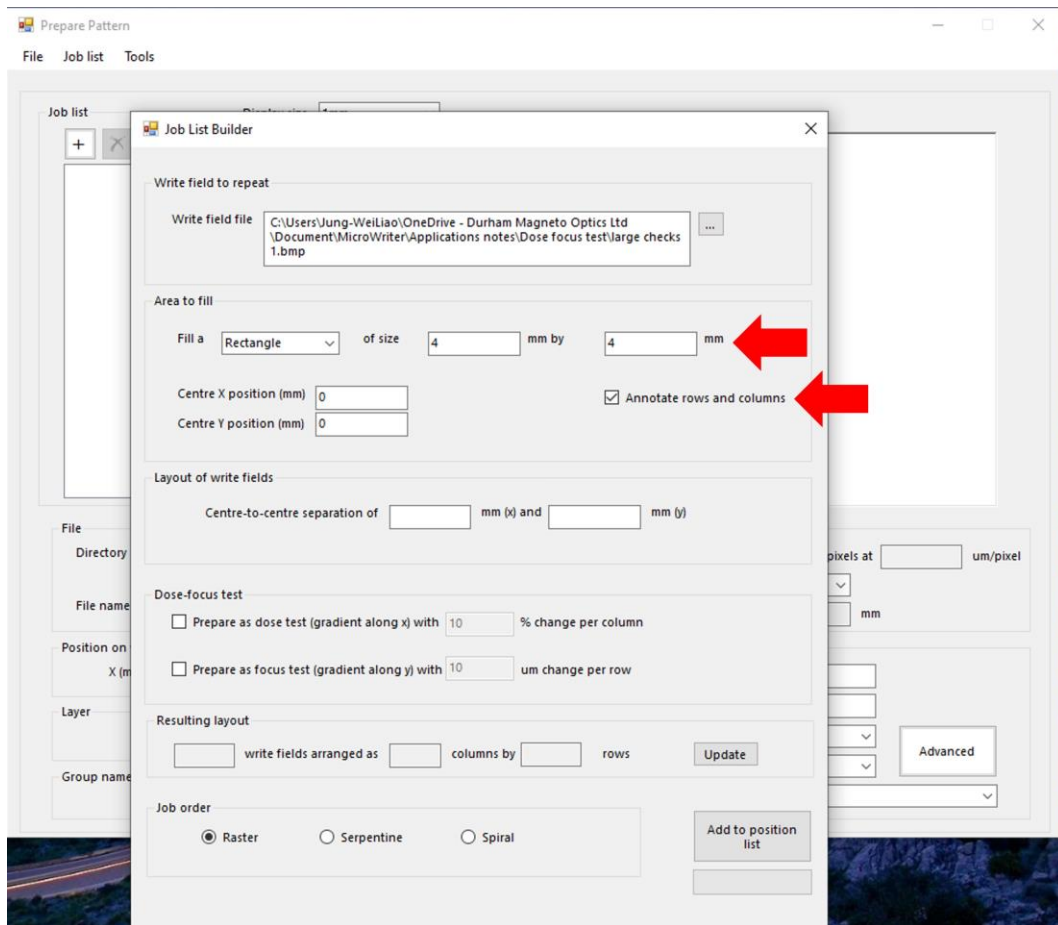

Figure 5 Enter the size of the rectangle area to fill and check the “Annotate rows and columns” option.
- f. Enter the size of the rectangle area (Figure 5). Here we will be filling a 4 mm x 4 mm rectangle area.
- g. Check the “Annotate rows and columns” options (Figure 5). This will produce annotations patterns in the exposure results. The annotations help us to identify the location of the desired pattern and therefore the dose and focus parameters used to produce this pattern.